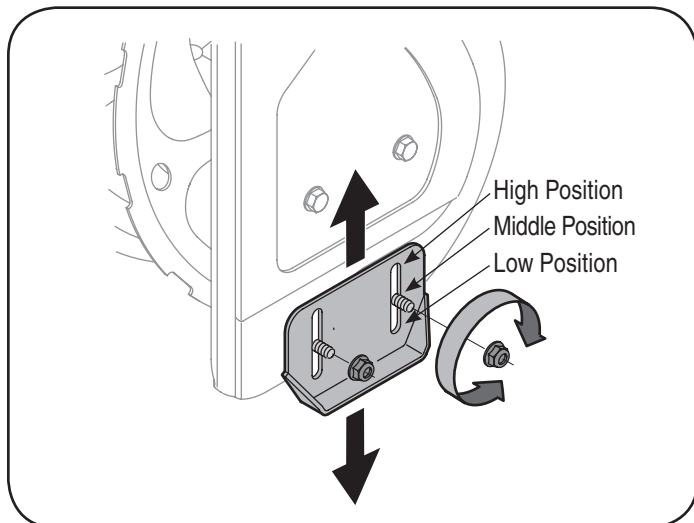
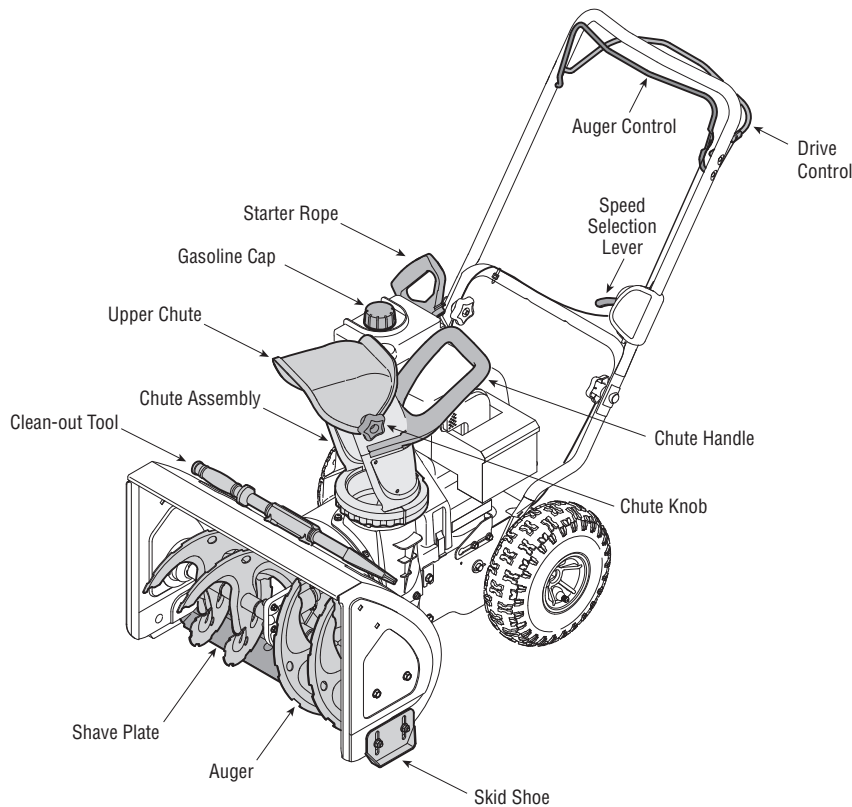

Figure 5
Figure 6
The space between the shave plate and the ground can be adjusted. Refer to Figure 6 on page 8 for location of shave plate and skid shoes. For close snow removal, place skid shoes in low position. When area to be cleared is uneven, place skid shoes in the middle or high position. See Figure 5.
1. Adjust skid shoes by loosening two nuts and carriage bolts on each skid shoe, and moving skid shoe to the desired position. See Figure 5.
NOTE: Compare Figures 6 & 7 with your equipment and follow description of controls, given below, to become familiar with their operation.